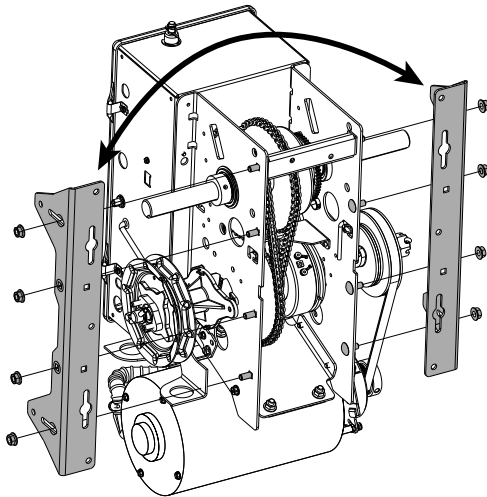

Figure 14
- Remove 8 nuts (4 each side) and exchange sides of the mounting brackets and reinstall with mounting pads inboard. See Figure 14